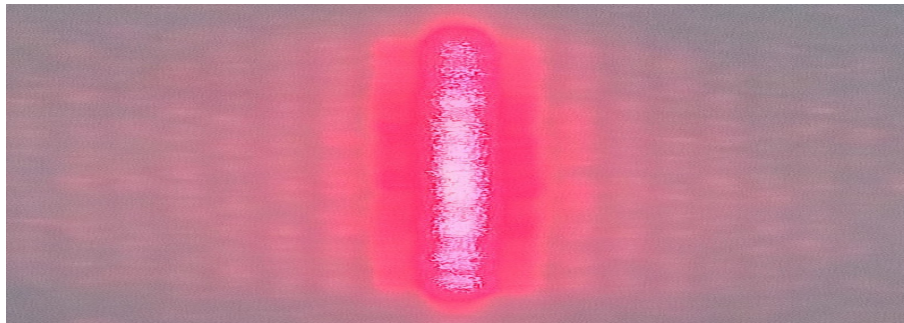

Figure 4. Diffraction of Slit 2: width 0.3 mm.
- c) Continually rotate the hand wheel to select Slit 2 entering the optical path. Changes of stripe interval of diffraction pattern can be observed, as shown in Figure 4.